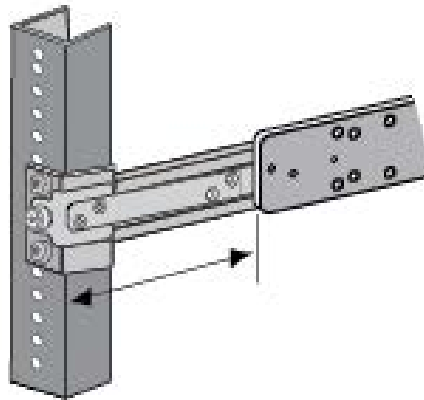

Figure 115. Verifying the Length of the Extension Bracket
5. Measure the distance from the front of the equipment rack to the front of the inner rail. Refer to Figure 115. This should approximately match the value you measured in “Measuring the Extension Bracket Lengths” on page 185.